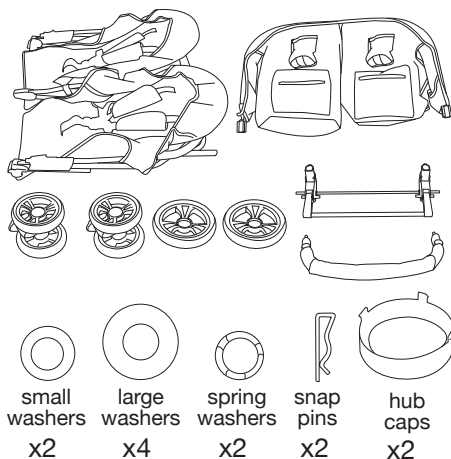

Figure 1
- Identify the parts (stroller, front wheel set (2), rear wheels (2), rear axle and brake set, canopy, bumper bar, small washers (2), spring washers (2), large washers (4), snap pins (2), hubcaps (2) and documents [not shown]) with the pictures in Figure 1. Also, extra rear wheel assembly parts may be included.